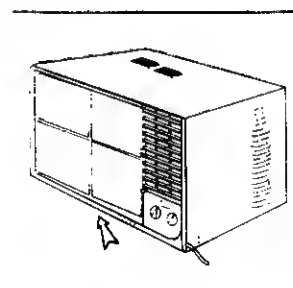

Fig 4
- E. Grasp the lower front corner of the front panel, pulling (gently) outward and upward Repeat this step on the 3 remaining corners (Fig 4)